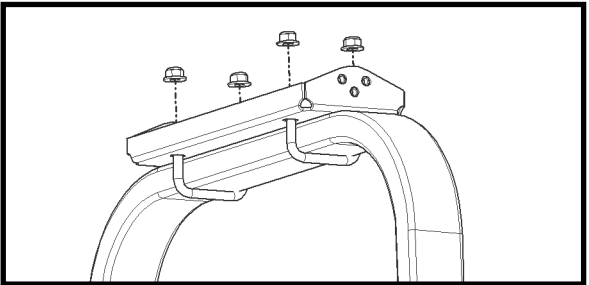

Fig. 2 (Attach ROPS Plate)
2. Per fig. 2, position the ROPS plate on top of the vehicle ROPS, with the very long arched slots for the U-bolts to the rear of the tractor. If the threads of the U-bolts do not stick down through the ROPS plate, install 4 of the 16 supplied 1/2" washers over each leg of the U-bolts. Install nuts onto the U-bolts. Adjust the position of the ROPS plate so U-bolts are in contact with the front face of the vehicle ROPS (to ensure it is parallel with the ROPS). If required, rotate the U-bolts in the rear slots so they are tight to the back of the ROPS. Center the ROPS plate left to right and tighten the nuts to 22 ft.-lbs.